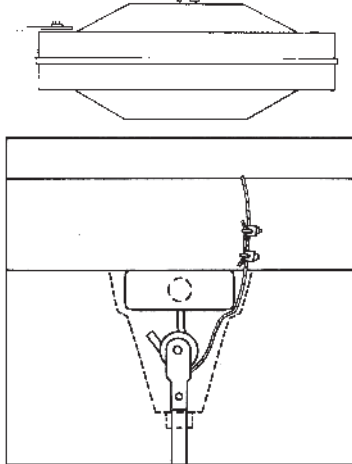

Figure 3
9. This fan is equipped with the required “secondary support” cable. This cable must be affixed to the beam structures and securely clamped in such a manner to support the weight of the fan in the event the mounting hook or other parts fail. After wrapping cable around a structural member that will support 300 lbs., secure cable with supplied cable clamps as illustrated in Figure 3. (Note: Any additional materials needed for specific installations may be purchased from your local distributor.)
**IMPORTANT CAUTION:** The safety cable must not be placed between the rubber roller and hook but as illustrated in Figure 3.
10. When hanging fan on factory supplied "J" hook, make sure cable at top of rod is positioned behind "J" hook as illustrated in Figure 3.